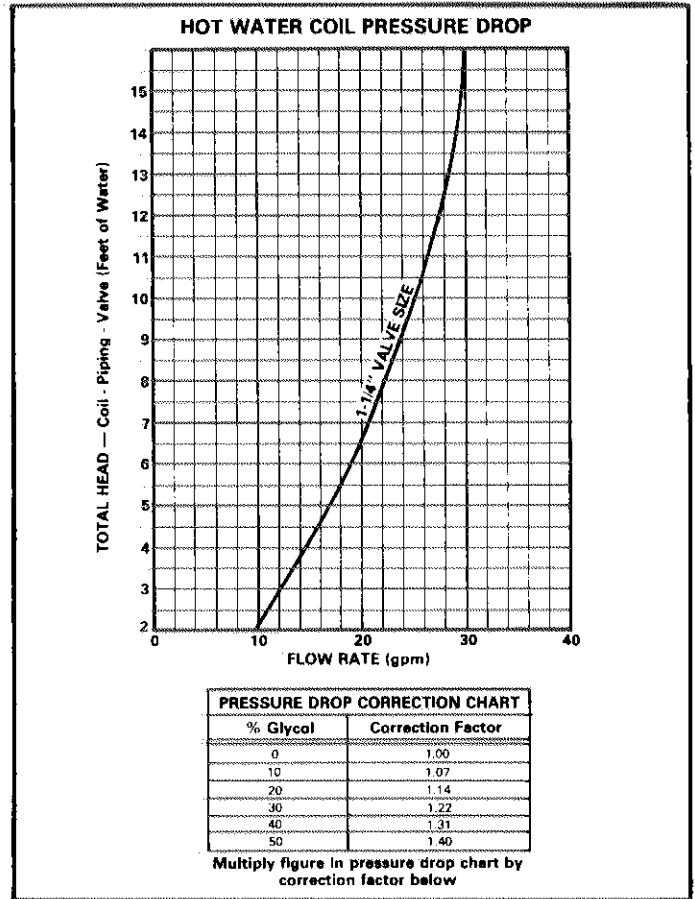

FIGURE 23
- 4 - The flow rate through coil can be determined per Figure 23. A correction factor is included in illustration for the affects of glycol.